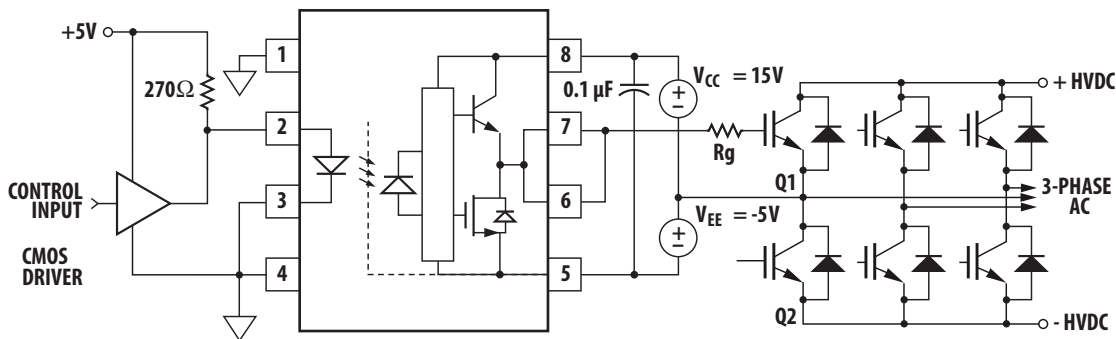

Figure 26. ACPL-312T typical application circuit with negative IGBT gate drive.
**Step 1:** Calculate  $R_g$  Minimum from the  $I_{OL}$  Peak Specification. The IGBT and  $R_g$  in Figure 26 can be analyzed as a simple RC circuit with a voltage supplied by the HCPL-3120.
For the circuit in Figure 26 with IF (worst case) = 16 mA, RG = 8 Ω, Max Duty Cycle = 80%, QG = 500 nC, f = 20 kHz and TA max = 85°C: